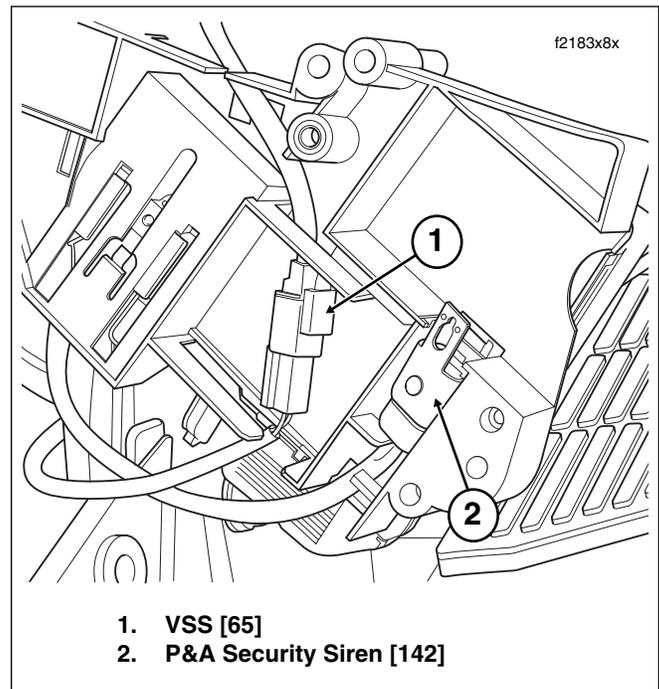

Figure 8-117. Electrical Bracket (Inboard Side)
5. Disconnect VSS connector [65], 3-place Deutsch, on the inboard side of the electrical bracket. See Figure 8-117.
6. Connect VSS connector. Route connector and cable on inboard side of electrical bracket as shown in Figure 8-117. Be sure that cable is properly routed or wires may be pinched during installation of bracket.